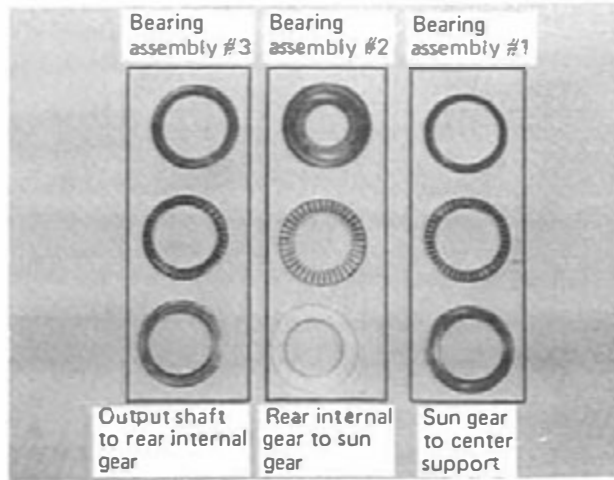

FIGURE 39
STEP 2. Separate and inspect the needle bearing assemblies. Check for pitting, wear or cracked races. Check for worn needles. Refer to Fig. 39 and match up bearings and races.